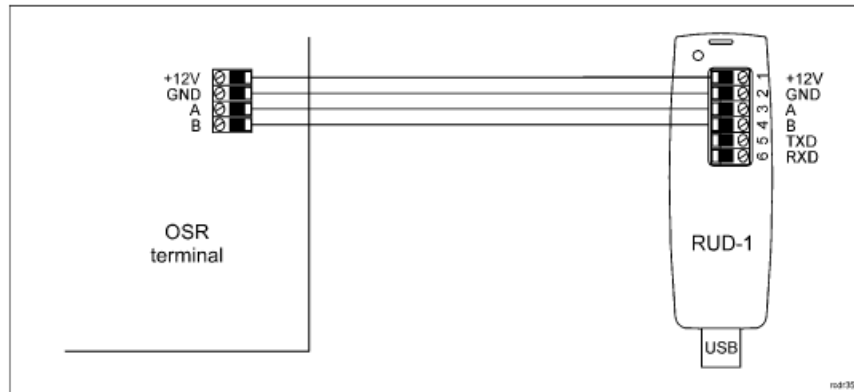

Fig. 1 Connection of OSR terminal to RUD-1 interface.
1. Connect the device to RUD-1 interface (fig. 1) and connect the RUD-1 to computer's USB port.
The firmware of device can be changed to newer or older version. The update requires connection to computer with RUD-1 interface (fig. 1) and starting RogerVDM software. The latest firmware file is available at [www.roger.pl](http://www.roger.pl)